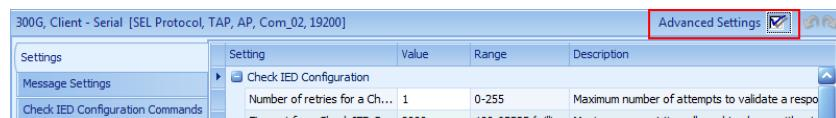

Figure 134 Advanced Settings
Step 15. For either type of connection, select the **Advanced Settings** check box, as shown in *Figure 134*.